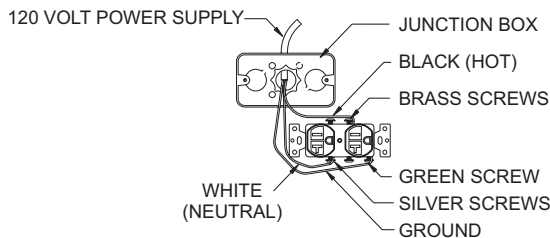

Figure 29
3. Remove the electrical access cover panel from the left end of the fireplace. **See Figure 29.**
4. Run 14/2 Nm-B with ground or 12/2 Nm-B with ground wire through the electrical access panel into the Junction box. Attach the black wire to the receptacle, and the white wires to the receptacle as shown in **Figure 29**. Secure the incoming ground wire and green receptacle ground wires under the green ground screw provided in the junction box.